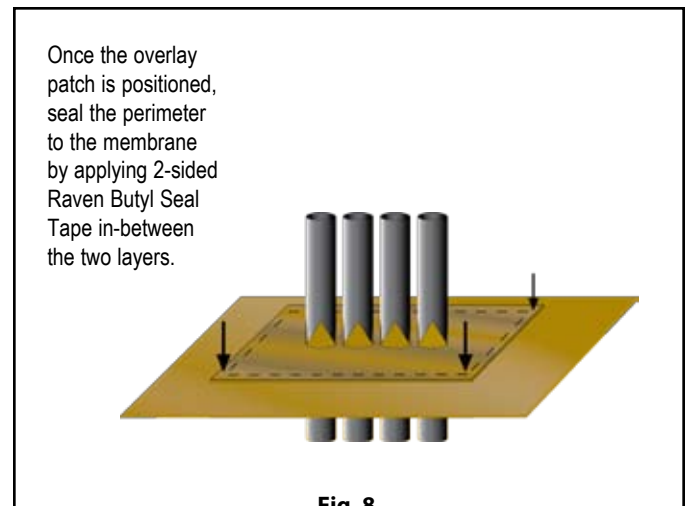

Fig. 8
- D) Once patch is positioned, seal the perimeter to the membrane by applying 2-sided Raven Butyl Seal Tape in-between the two layers. (Fig. 8)